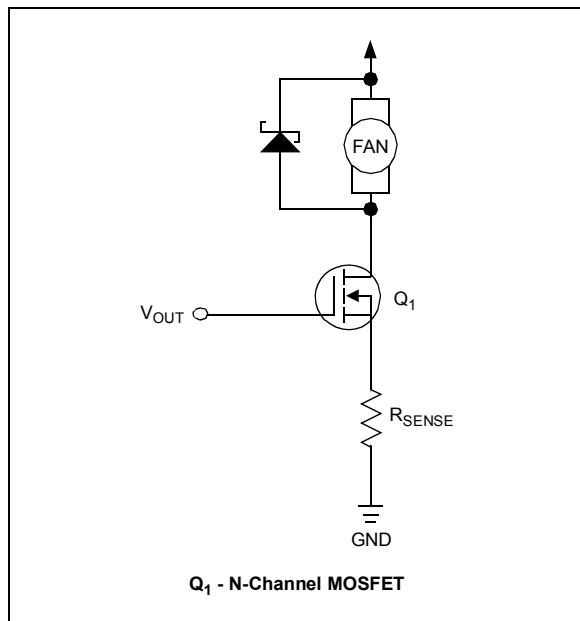

FIGURE 7-8: Clamp Diode For Fan Turn-off.
- Ask how the fan is designed. If the fan has clamp diodes internally, you will not experience this problem. If the fan does not have internal clamp diodes, it is a good idea to put one externally (Figure 7-8). You can also put a resistor between V_{OUT} and the gate of the MOSFET, which will help slow down the turn-off and limit this condition.